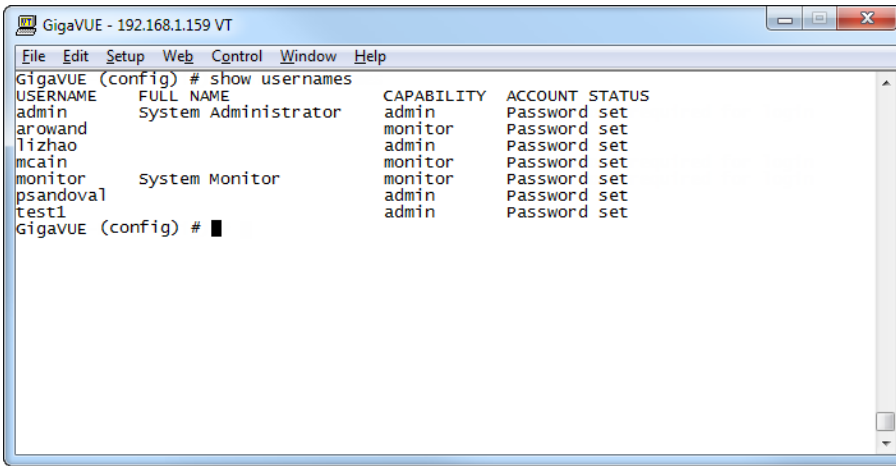

Figure 16 Reviewing the User List
2. Once you have configured these basic user accounts, use the **show usernames** command to review your settings. Figure 16 Reviewing the User List shows some sample **show usernames** output after several users have been added.